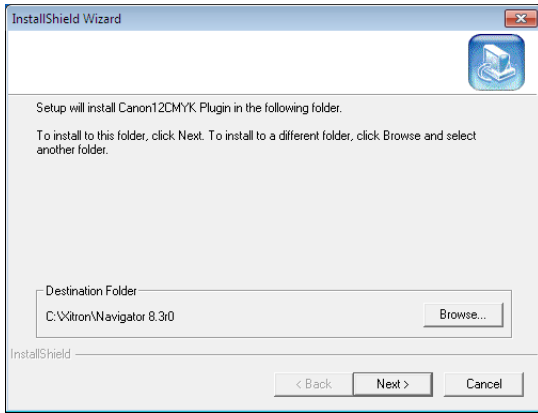

Figure 3: Start Installation
- If you are using an installer downloaded from the Xitron website, at (<http://xitron.com/Navdriver.htm>), double-click Setup.exe to start the installation process, and follow the installation instructions (Figure 3) onwards.